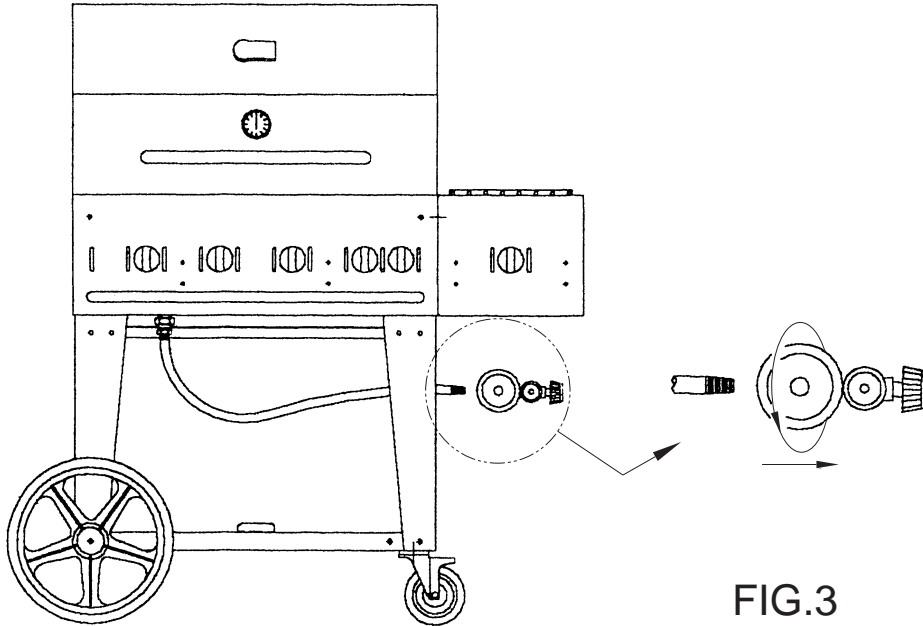

FIG. 3
3. Remove the regulator assembly from the end of the hose as shown in fig. 3. On larger units, choose the hose that is on the right (closest) side.